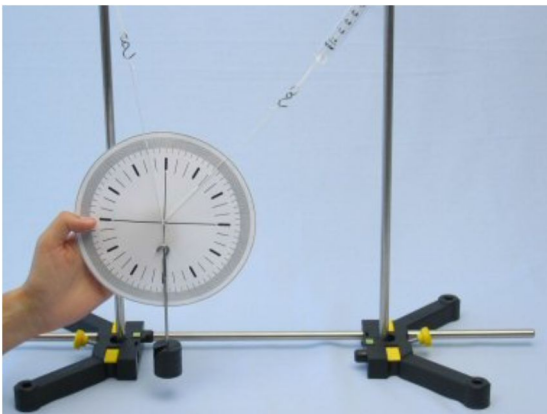
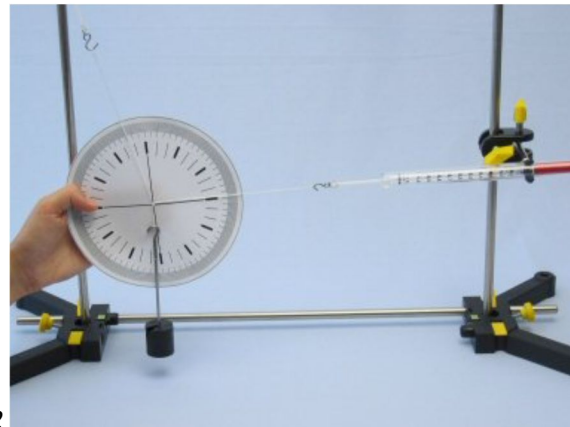

Fig. 12
Fig. 13
- Set the angle α_1 approximately equal to those values given in Table 2 on the Results page as shown in Fig. 12 and Fig. 13.